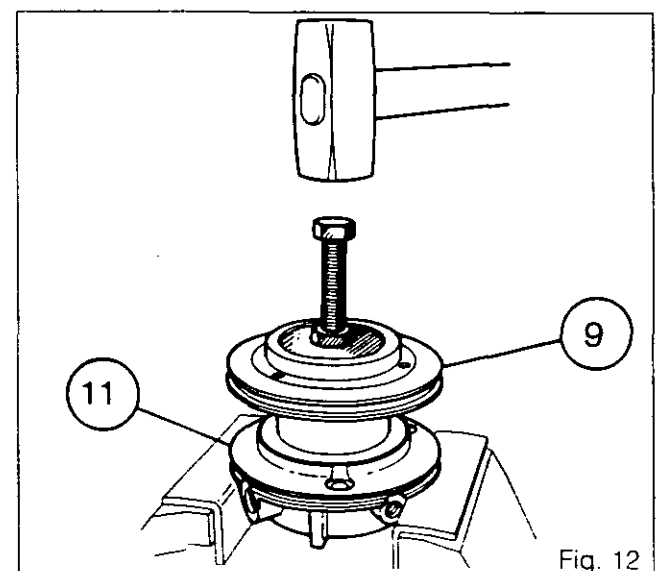

Fig. 12
Insert the release bearing carrier (9) in the front of the cylinder (11) using the tool (Fig. 12) (See Section J)